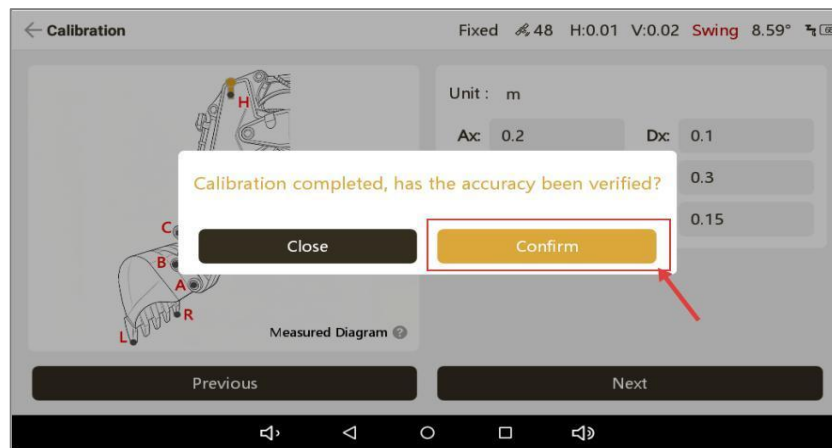
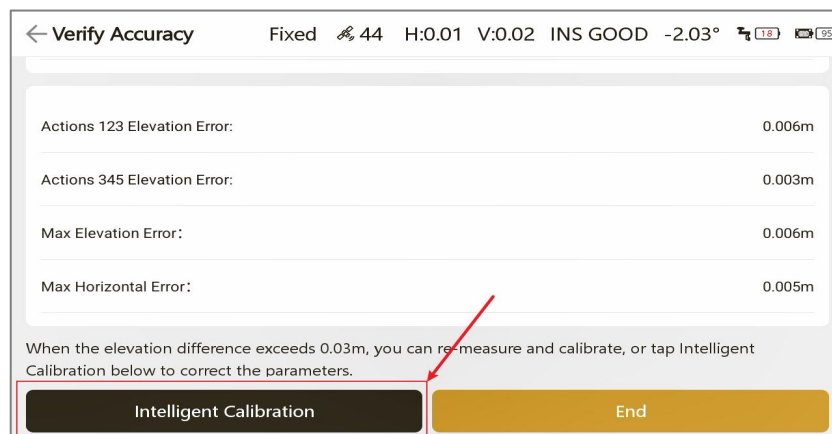
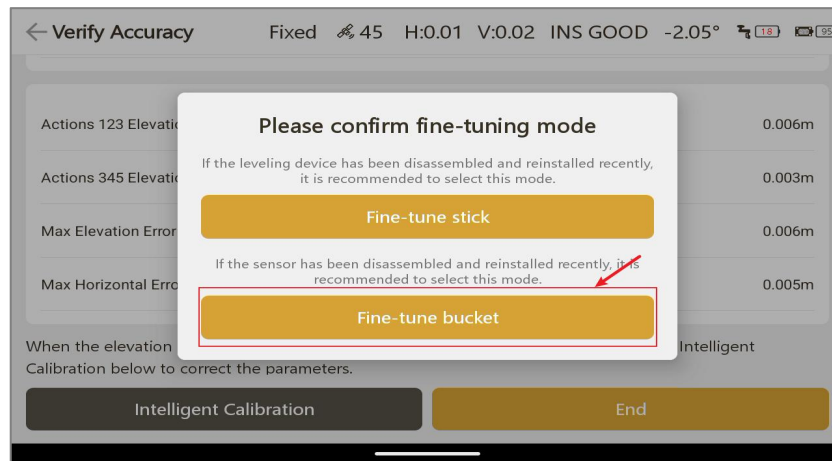

Figure 3-86
Figure 3-87
Figure 3-88
- (12) Complete the calibration, then tap 'Confirm' to verify accuracy, as shown in Figure 3-86. To verify accuracy, use the left bucket tip to measure the same point five times with different arm postures. The accuracy verification results are shown in Figure 3-87. **Note:** If the elevation accuracy range (max-min) for small excavators is within 3 cm, and for large excavators within 6 cm (± 3 cm accuracy), the calibration is considered successful, and you may tap 'Close'.
- (13) If the elevation accuracy does not meet the requirement, tap 'Intelligent Calibration', as shown in Figure 3-87 above. Tap 'Fine-Tune Bucket', as shown in Figure 3-88, then tap 'Confirm' in the pop-up window.